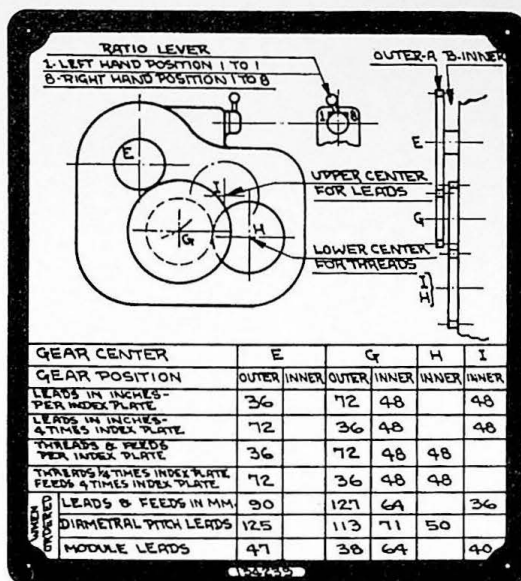

Figure 15-ET Instruction Plate for Lathes with English Leadscrew
NOTE: For the convenience of customers in countries using the metric system, the latest machines that are shipped with an English leadscrew and metric translating gears are also being supplied with a special Dial Index Plate "P" and Instruction Plate Window. The special plate has three columns to give (1) Threads per inch, (2) Feeds in millimeters and (3) Leads obtained with the metric translating gears. A special Instruction Plate, similar to Figure 15-ET, is also supplied with such machines to clearly show the gearing arrangement.
Table No. 2-ET shows the range of metric leads in millimeters and feeds in millimeters per revolution of the spindle obtainable when special metric translating gears, which are furnished at extra cost and only when ordered, are applied to the machine. By referring to Figure 15-ET, it will be noted that a 90 T gear is mounted on Center "E" meshing with a 127 T gear mounted on Center "G", outer plane. On the inner plane, a 64 T gear is mounted on Center "G" meshing with a 36 T gear on Center "I". Since the Interference Latch "D" will be in the lower position, the window at the right front end of the quick change gear box will
Table No. 3 ET shows the range of diametral pitch leads obtainable when special translating gears, which are furnished at extra cost and only when ordered, are applied to the machine. The leads, in inches, that can be obtained as shown in Table No. 3-ET are those that are equal to the circular pitches of gears of the given diametral pitches. Thus a worm or hob can be chased for a certain diametral pitch directly as given. All of the diametral pitch leads shown can be obtained with a 125 T gear on Center "E" meshing with a 113 T gear on Center "G", outer plane. On the inner plane, a 71 T gear mounted on Center "G" meshes with a 50 T gear on Center "H" as shown in Figure 15-ET. Since the Interference Latch "D" will be in the upper position, the window at the right front end of the quick change gear box will read "THREADS-FEEDS". The machine is set up exactly as that described for setting up the machine to cut English threads per inch. The correct position for the Dial Index Plate "P" is
the given modules, in millimeters. Thus a worm or hob can be chased for a certain module in the metric system directly as given. All of the module leads shown can be obtained with a 47 T gear on Center "E" meshing with a 38 T gear on Center "G", outer plane. On the inner plane, a 64 T gear mounted on Center "G" meshes with a 40 T gear on Center "I", as shown in Figure 15-ET. Since the Interference Latch "D" will be in the lower position, the window at the right front of the quick change gear box will read "LEADS". The machine is set up and operated exactly as that described for setting up the machine to cut standard English leads in inches. The correct position for the Dial Index Plate "P" is determined from the index dial position indicated in Table No. 4-ET, as well as the positions for the Ratio Lever "K" and the Range Lever "L".